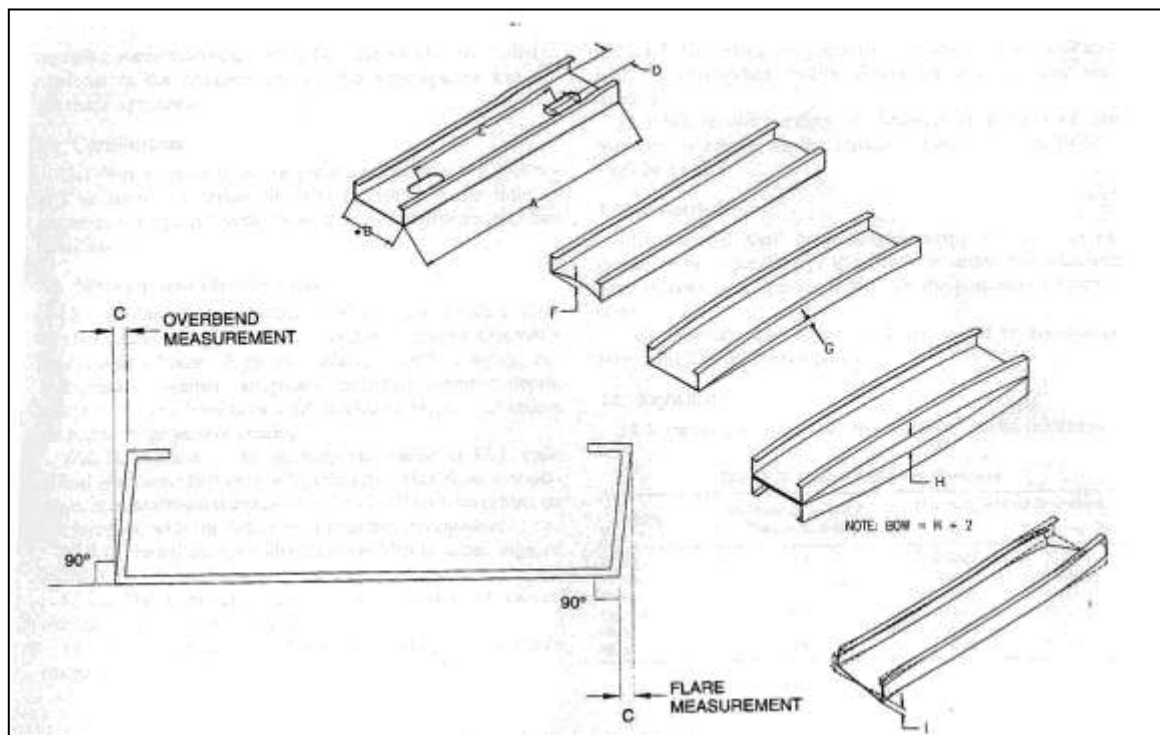

Fig. 2 Manufacturing Tolerances
Stud & track profiles shall be manufactured from pre-galvanized high tensile steel conforming to IS 277:1992, ASTM A 653/A 653M-2013 Grade 350 having Yield stress of min.350 MPa & Tensile stress of min. 380 MPa and coating of min. Z 275 or equivalent as per the Performance requirement, Dimensions and Permissible tolerances shall to ASTM C:955-07. See Fig 2 and table 3
- iii. Members shall be manufactured within the tolerance limits as shown in Fig.2 and Table 1 below